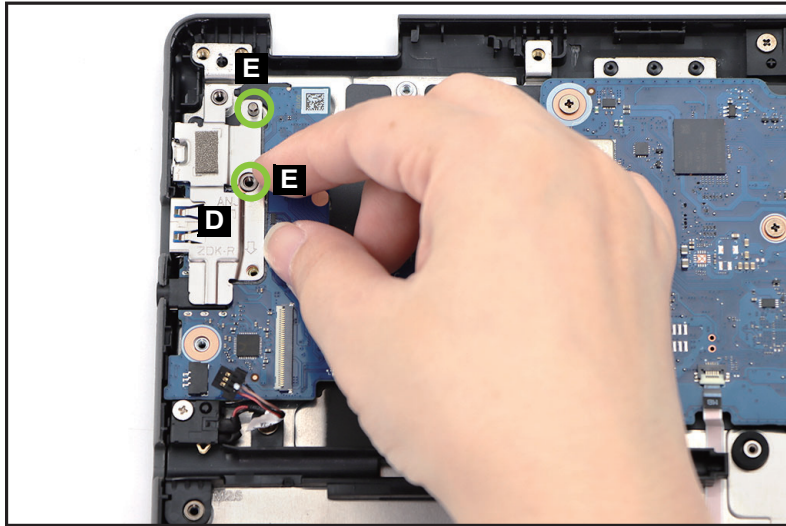

Figure 1-31. USB Board Removal
5. Release the I/O bracket (D) from the guide pins (E) on the top assembly (Figure 1-31). Then remove the I/O bracket.